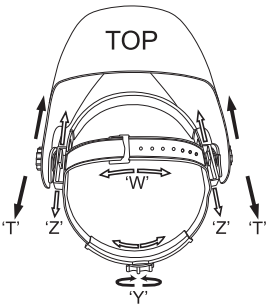

Fig.1
- Loosen the block nut on either side of the helmet and slide it nearer or further from your face. (See adjustment “Z” in fig.1). It is important that your eyes are each the same distance from the lens. Otherwise the darkening effect may appear uneven. Re-tighten the block nut when complete the adjustment.
- Adjusting view angle position (see fig.1)
- The overall circumference of the headband can be made larger or smaller by rotating the knob on the back of the headband. (See adjustment “Y” in fig.1) This can be done while wearing the helmet and allows just the right tension to be set to keep the helmet firmly on the head without it being too tight.
- If the headband is riding too high or too low on your head adjust the strap which passes over the top of your head. To do this release the end of the band by pushing the locking pip out of the hole in the band. Slide the two portions of the band to a greater or lesser width as required and push the locking pip through the nearest hole (See adjustment “W” in fig.1).